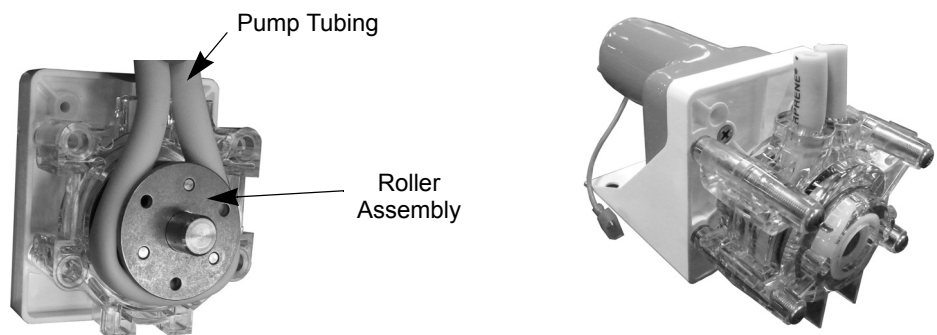

Figure 16. Pump Assembly
3. Remove **ONLY** the rear pump body half to reveal the pump tubing and rollers (See Figure 16).